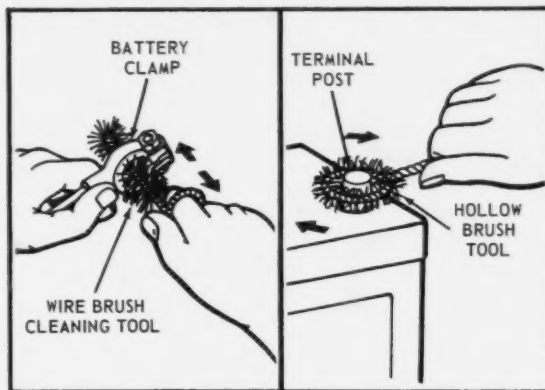

Fig. 22—Cleaning Battery Cable Clamps and Terminal Posts
brush cleaning tool (Fig. 22), or roll a small piece of sandpaper around your finger (grit side out) and clean the inside of the clamps. Wipe the clamps clean with a dry cloth.
5. Use a hollow-brush terminal cleaning tool to scrub the corrosion from the terminal posts (Fig. 22). (A stiff wire brush can be used if no tool is available.)